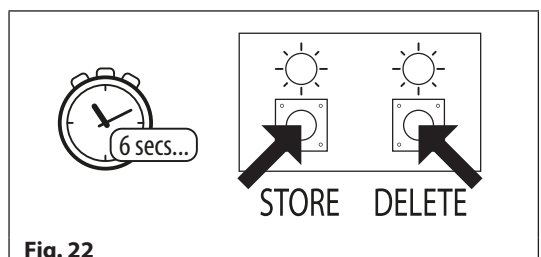

Fig. 22
1. Press and hold down both the store and delete buttons for approximately 6 seconds until both the green and red LED's switch **OFF**, see **Fig.22**;